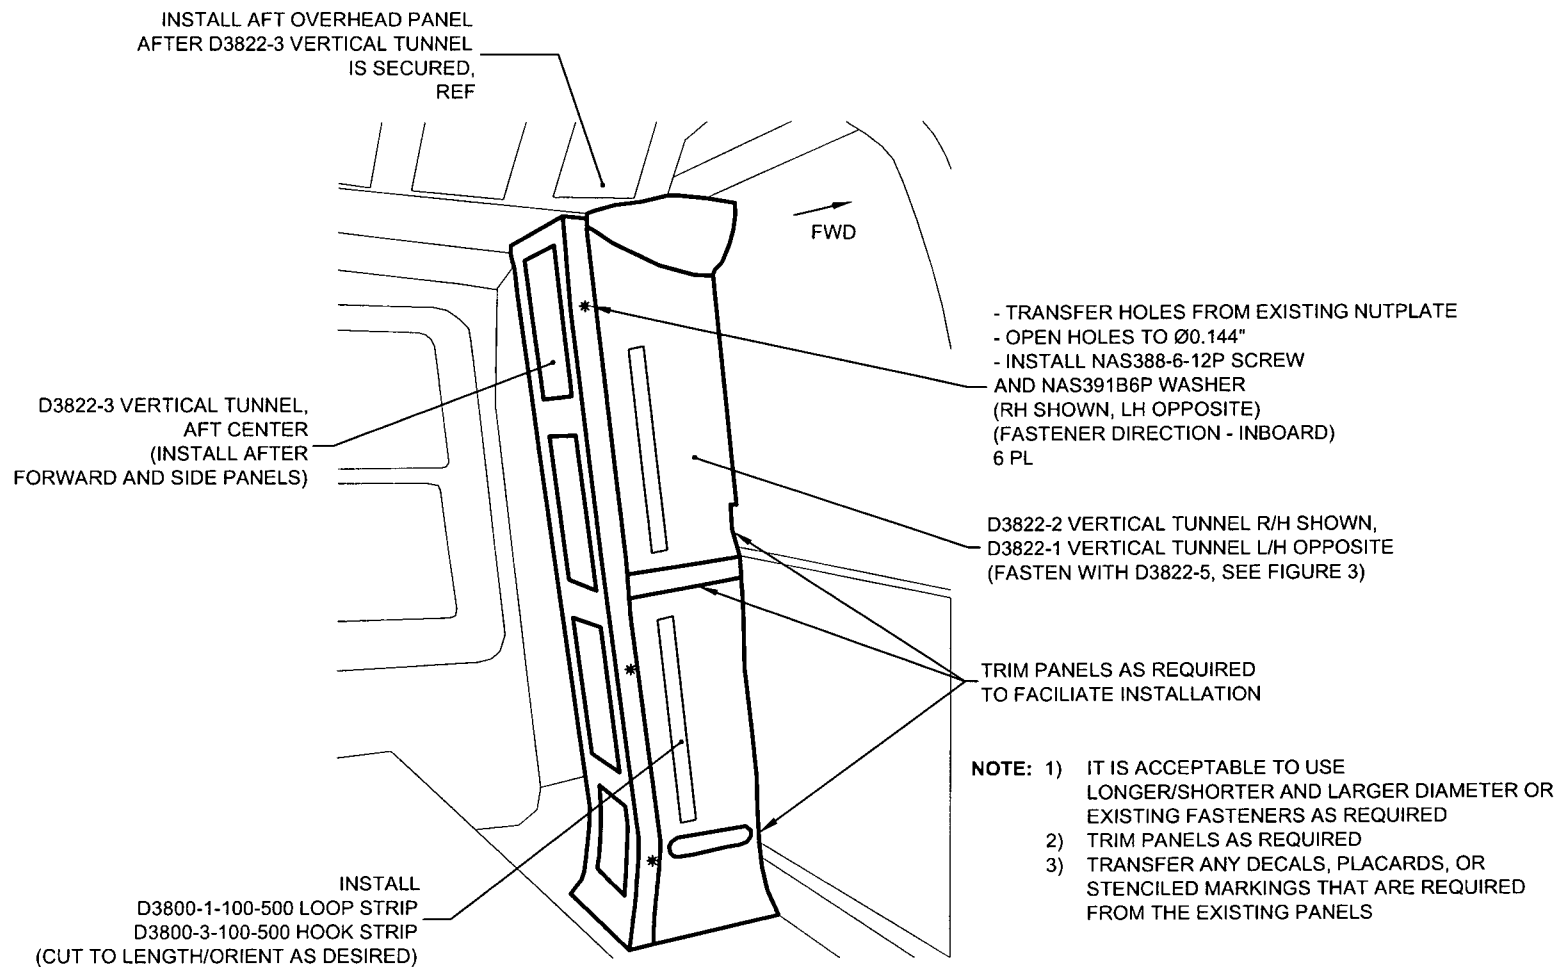

FIGURE 1 – D3822-1/-2/-3 VERTICAL TUNNEL PANEL INSTALLATION
- 3.1.2 Position D3822-1/-2/-3 (LH/RH/CENTER) Vertical Tunnel panels as shown in Figure 1.
- d) Transfer-mark fastener locations to the D3822-1/-2 panels as shown in Figure 1 and drill out the marked holes $\varnothing 0.144$ " (drill #27) (6 places). Deburr.
- 3.1.5 Position D3822-3 Vertical Tunnel, aft center panel as shown in Figure 1.
- a) Transfer-mark fastener locations to the D3822-3 panel as shown in Figure 1.
- c) Re-position the D3822-3 panel over the D3822-1/-3 panels and install with fasteners as shown in Figure 1.